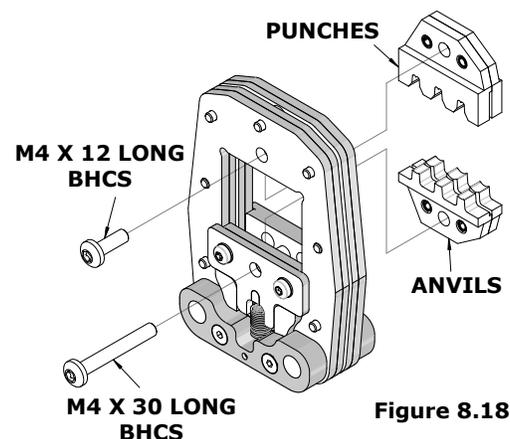

Figure 8.18
2. Insert the anvils or dies into the bottom slots of the nest. Install the M4 x 30 long BHCS and lightly tighten in place. See Figure 8.18.